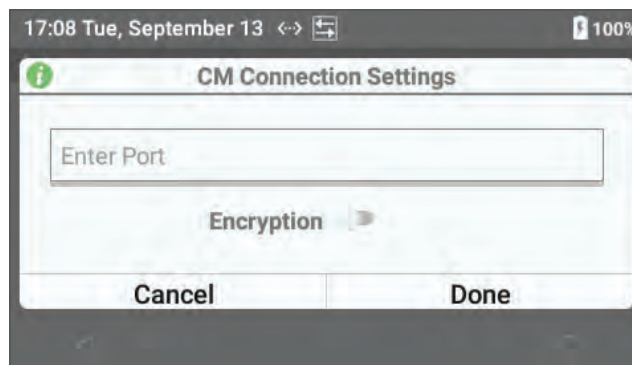

Figure 33: Configuring Port Number and Encryption Mode
- 2 In the dialog box (Figure 33), enter an unused **Port** number (e.g., 50000). For assistance, consult with the institution's network administrator.